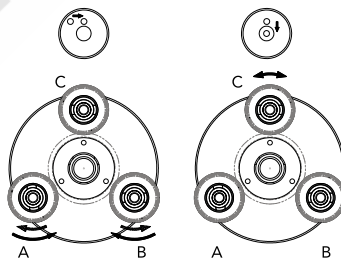

Fig. 2
- Move the bubble to the centre of the circle by adjusting the foot screws (fig. 2). Adjust A and B screws to move the bubble left and right, then adjust C screw to move the bubble into the centre circle.